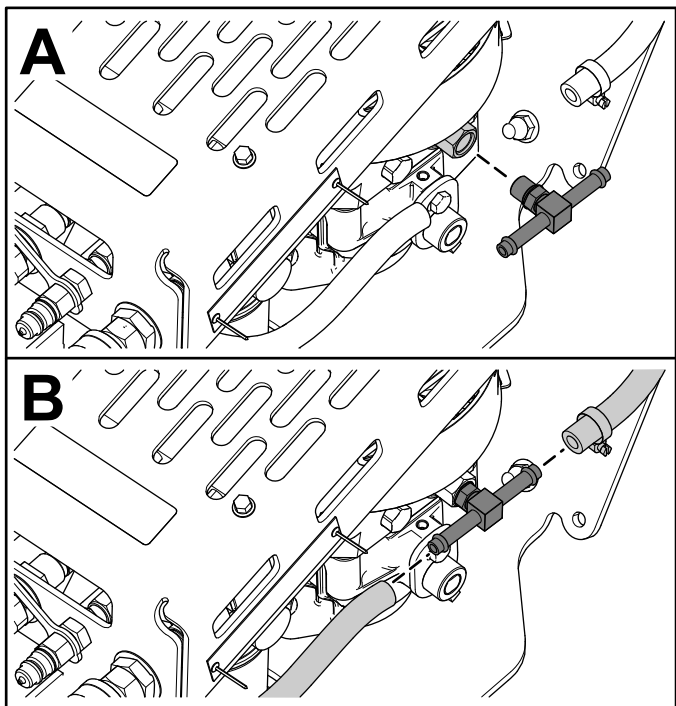

Figure 6
6. Using a backup wrench, tighten the tee fitting into the fitting on the hydraulic pump and connect the 2 hoses to the tee fitting (Figure 6).